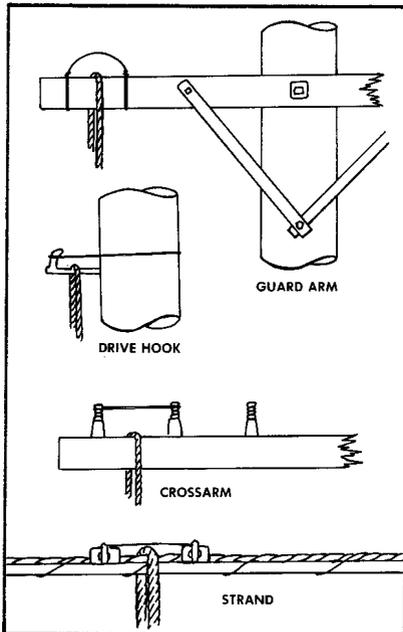

FIGURE 1. Temporary Guide Loop—Pole
2.08 If conditions could cause the handline, or the drop wire to which it is attached, to become disengaged from a drive hook or crossarm, or to slide along the strand or guard arm while performing the operations, the handline or drop wire shall be enclosed with a temporary guide loop. This loop shall consist of a short length of wire or rope placed over the handline or drop wire, with the ends of the guide securely tied as follows (Figure 1):